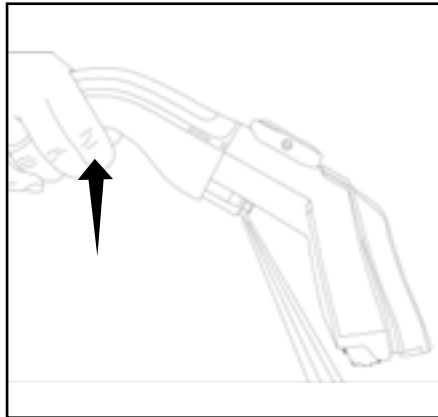

Fig. 4
4. For stubborn stains allow the cleaning solution to work for a few minutes onto the soiled area, by holding the cleaning tool approximately 2.5cm above the area to be cleaned, press the lever on the handle to spray solution onto the soiled area. Do not spray continuously in the same spot. (Fig 4)